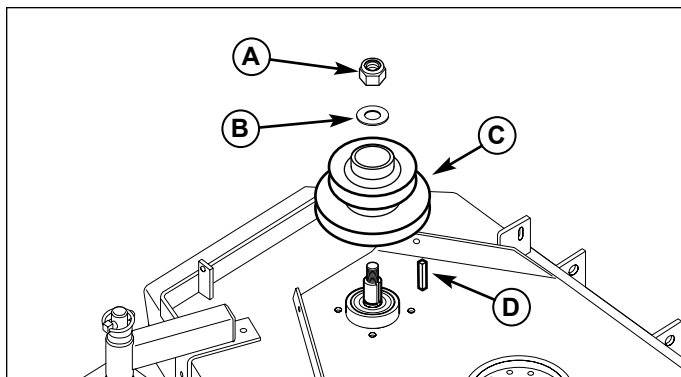

Figure 22. Install Spindle Pulley
1. Apply an anti-seize compound to the spindle shaft. Install the new, double spindle pulley (C, Figure 22) on the shaft with the smaller pulley facing up with the 5/8" nylon lock nut (A), 5/8" washer (B) and 1/4" key (D) and tighten to 85-95 ft./lbs. Use a block of wood to keep the blade from spinning while installing and tightening the 5/8" nut.